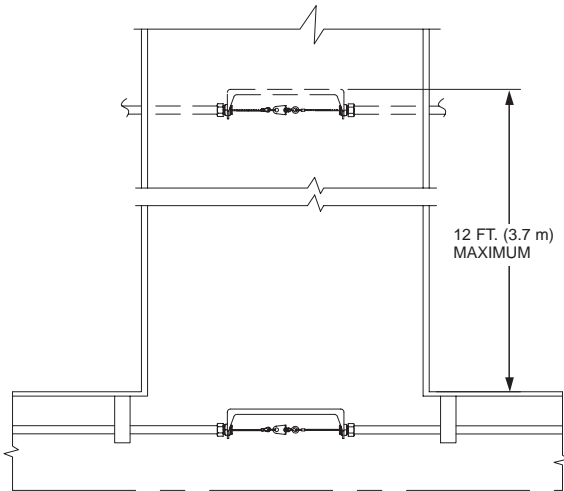

Figure 3-23.
Each exhaust duct must have at least one (1) detector installed in the duct entrance, located in the air stream of the cooking vapors at a maximum of 12 feet (3.7 m) into the duct. See **Figure 3-23**.